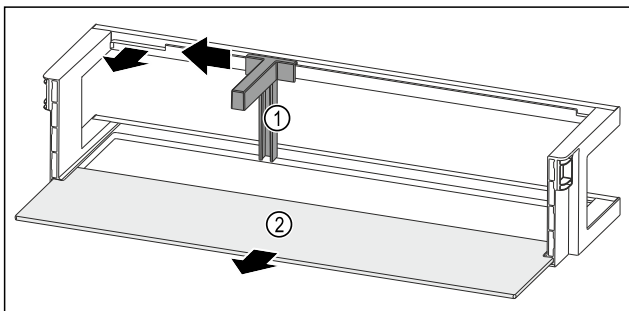

Fig. 153 Door rack with bottle holder and shelf
- ▶ Slide the bottle holder Fig. 153 (1) to the side as far as the recess.
- ▶ Remove the bottle holder Fig. 153 (1).
- ▶ Remove the shelf Fig. 153 (2).